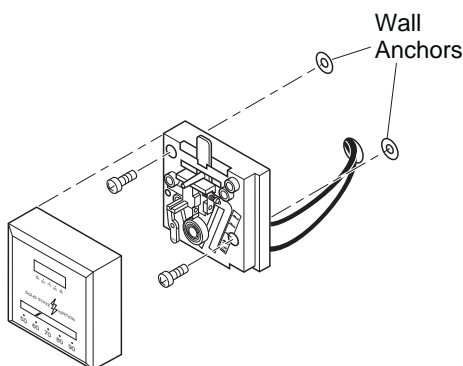

Figure 7 - Mounting Thermostat to Wall
5. Attach thermostat to wall using screws provided (see Figure 7).